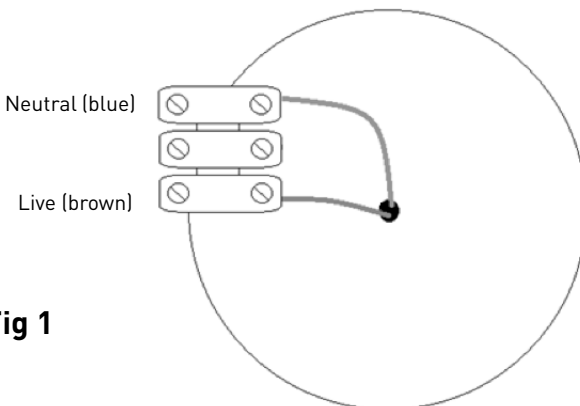

Fig 1
- Feed mains cable through the rubber grommet to retain IP rating and secure baseplate to the desired surface. Carefully wire as shown in Fig 1